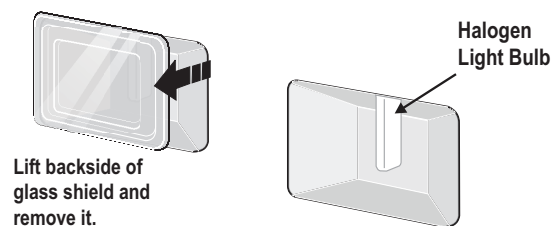

Figure 38: Light shield (L) and Halogen bulb (R)
2. To remove the glass shield, pull the back side of the shield toward the inside of the oven in a manner to lift it up from the oven side. The glass shield should come out easily by pushing a little toward front of the wall oven (See Figure 38).